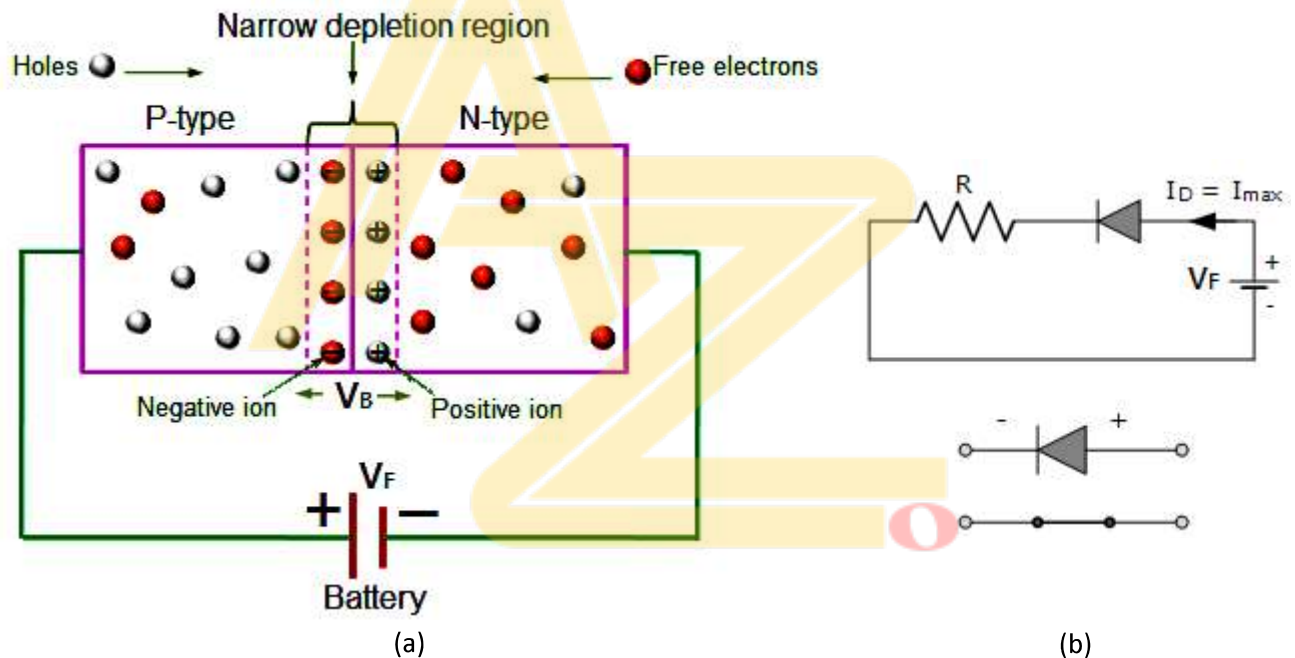

Fig.1.3 (a) Diode under Forward Biasing condition (depletion width decreases)
Forward Biasing: Diode is said to be Forward Biasing, if P-side is connected to positive (+) and N-side is connected to negative (-) of the battery, V_F as shown in the fig.1.3.
- (ii) If $V_F > V_B$, diode conducts and current flows in the circuit. This is because, holes of P-region are repelled by (+) and electrons of N-region are repelled by (-) of the battery, V_F . As a result, depletion width reduces. It is as shown in the fig.1.3 (a).
(iii) If $V_F \gg V_B$ and since, forward biased diode offers less resistance, current rises sharply. It is desired an external series resistance R , to limit the diode current I_D , as shown in fig. 1.3(b).